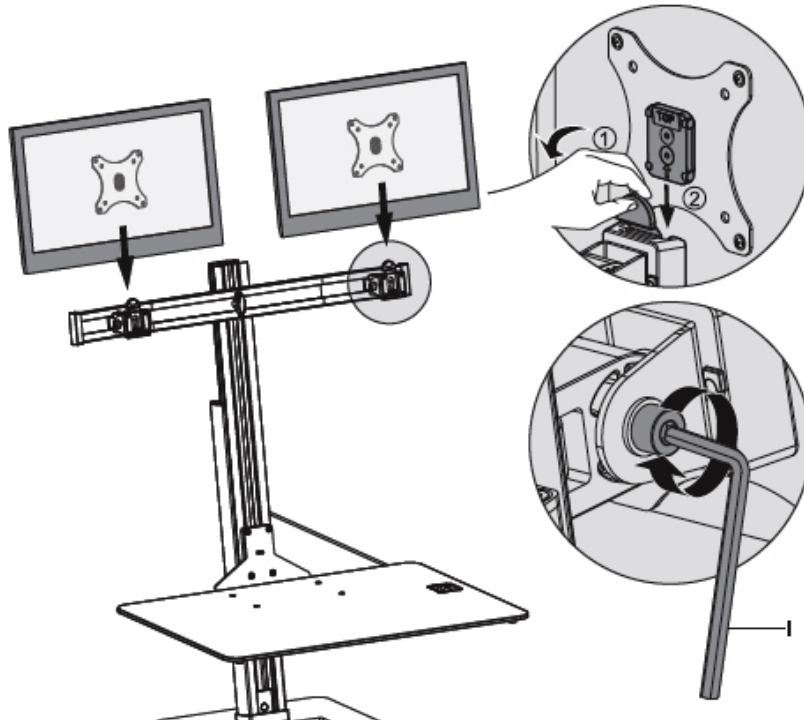

Figure 9
3. Move the Tab back and slide the VESA Plate with Monitor onto the VESA plate bracket, see Figure 9.
4. If necessary, adjust the tightness of the tilt angle joint using Allen Key (I), see Figure 9.